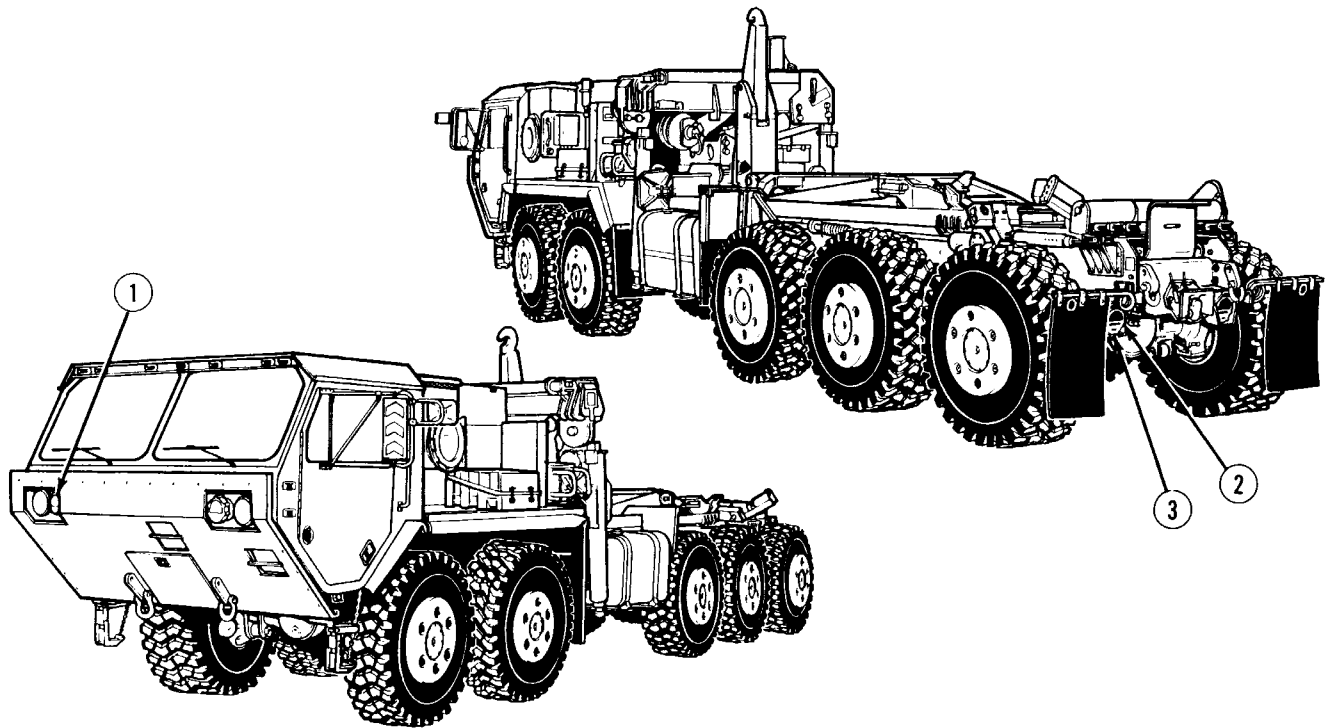

Figure 1-14. Blackout Lighting System
d. Blackout Lighting. The blackout lighting system (Figure 1-14) includes the front blackout marker lights (1), rear blackout marker lights (2), blackout stop lights (3) and panel lights. These are energized by turning on the blackout light selector switch and either the blackout marker switch or the blackout drive switch. The blackout stop lights and the panel lights are then controlled by other switches located in the cab.